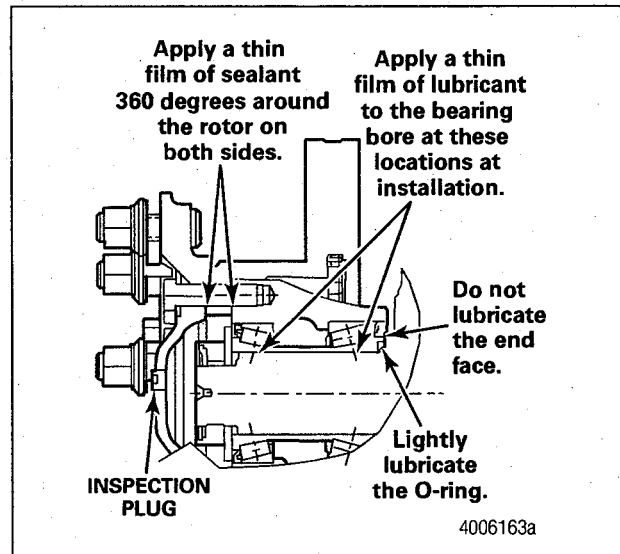

Figure 6
2. Apply a light coat of anti-seize lubricant such as Molykote-D paste to the bearing bore and to the O-ring before installing the hub onto the spindle. Do not apply any lubricant to the spindle or on the bearing end face. The spindle should be clean and free of any contamination. Figure 6.